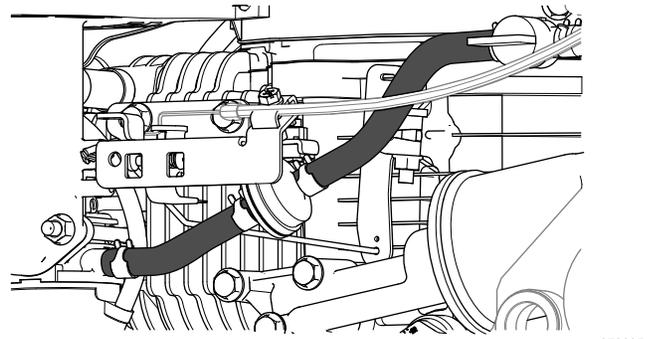

Figure 41
3. Assemble the fuel hose over the carburetor-fuel fitting (Figure 41).